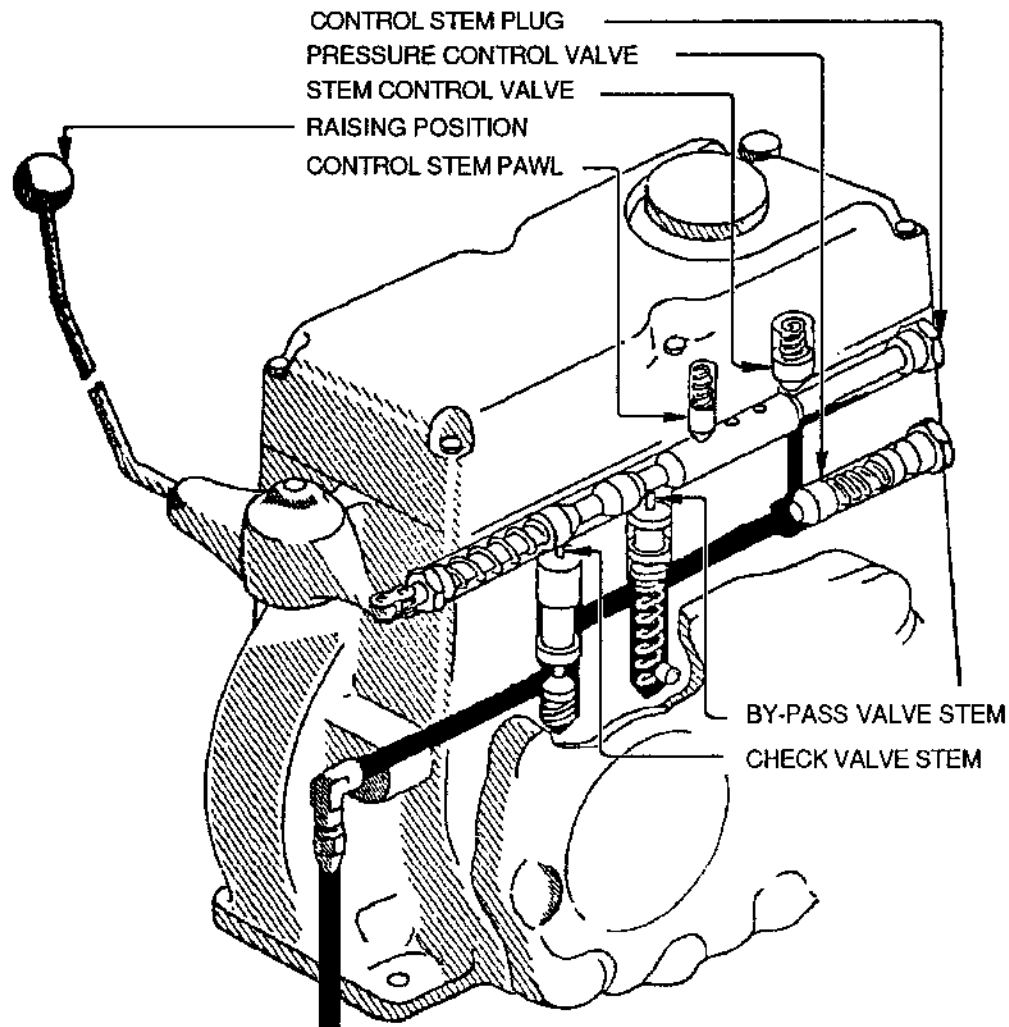

FIG. 3 OIL FLOW DURING TOOL BAR RAISING OPERATION
B. Principle of Operation (See Figures 3 and 4)